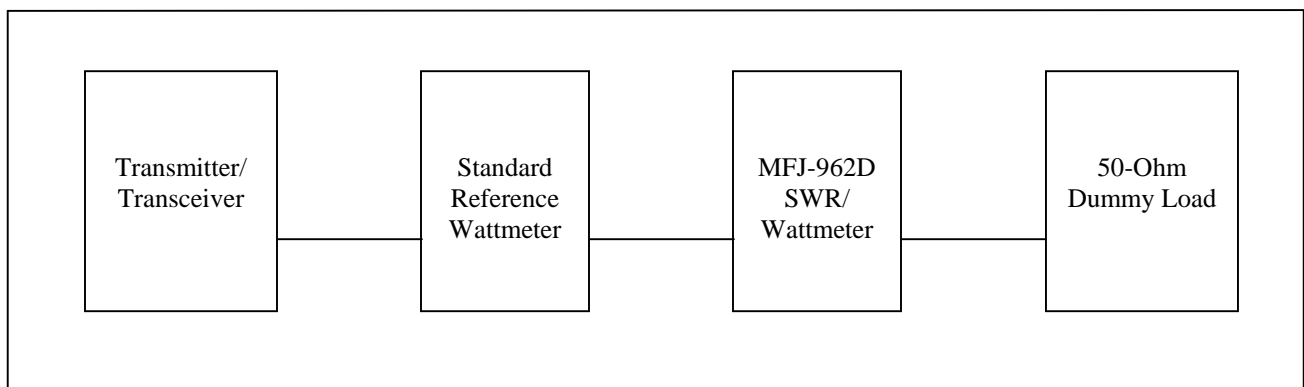
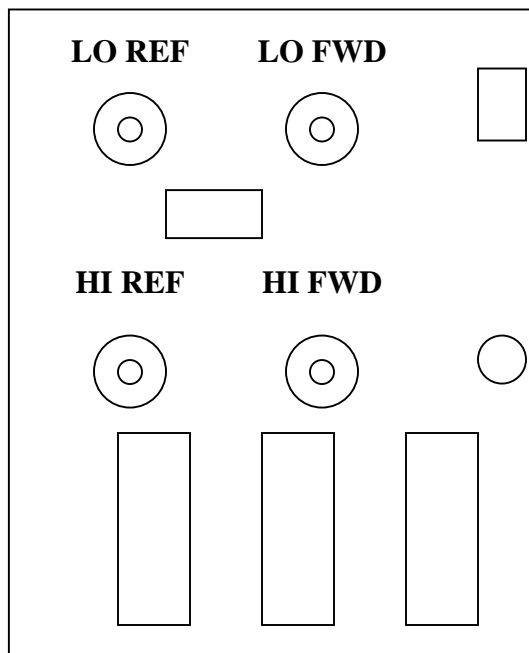

Figure 1: Test Setup
Figure 2: PCB Layout and Trim Pot Location
1. Refer to *Figure 1* for the Test Setup and refer to the PCB layout in *Figure 2* for trim pot location.
3. Connect the Test Setup equipment as shown in *Figure 1*. Use a 50-ohm dummy load for the antenna. Set the Transmitter to the 14 MHz in the 20-meter band.